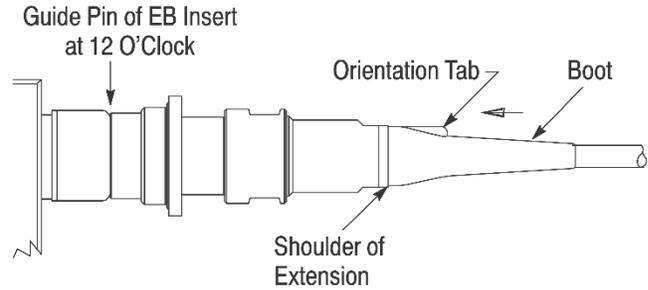

Figure 16
26. Slide the boot over the cone of the extension until it is tight against the shoulder of the extension. Immediately rotate the boot so that the orientation tab is aligned with a desired reference point (using the guide pin of the EB insert is recommended; facing the bench-mount fixture assembly, the guide pin is positioned at 12 o'clock). See Figure 16.